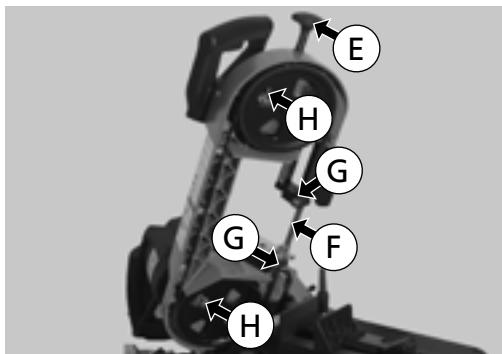

Fig. 50
5. Loosen the cutting blade as much as possible by turning the tightening knob (E) in an anticlockwise direction (Fig. 50).
6. Remove the cutting blade from the guides and displace it around the wheels (H) (Fig. 50).